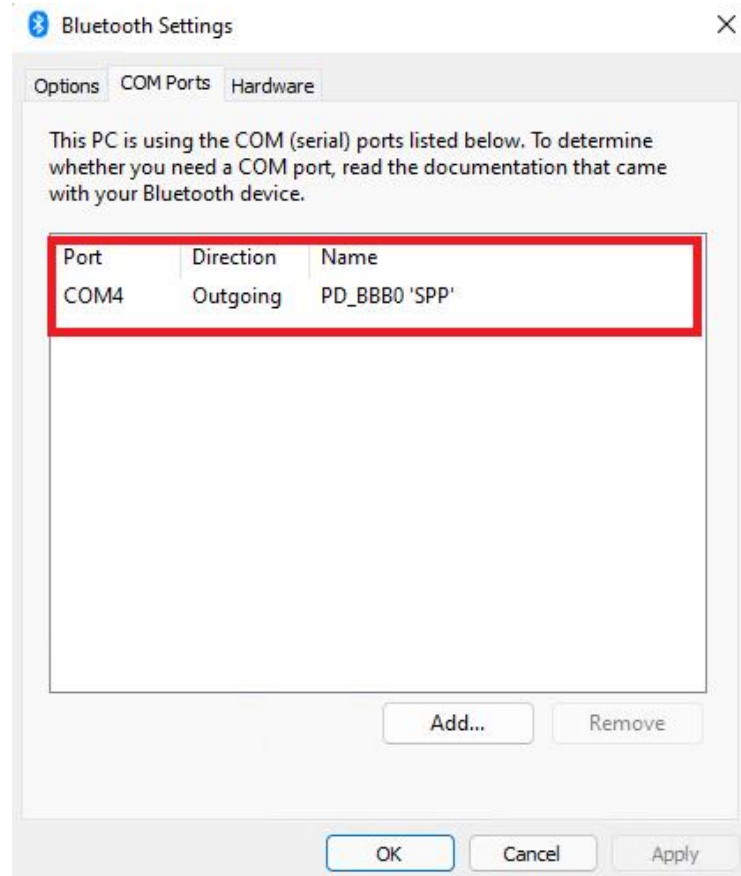

Fig.5
1.5 After the device is selected, port direction and name will be automatically configured based on the protocol. SPP indicates the Bluetooth transmission protocol supported by the port. Fig. 5